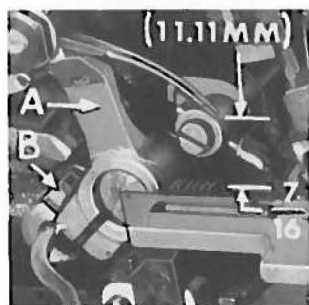

Fig. 3
With throat plate assembled in position needles should center in the front end of needle slot. When needles are at high position, the needle points should be set  $7/16$  inch (11.11 mm) above the throat plate (Fig. 3) for Style 39500 RB. For Styles 39500 RC-045 and RC-060 the needle points should be set  $15/32$  inch (11.91 mm) above the throat plate. To align needles or set the height above throat plate, move needle driving arm (A, Fig. 3) by loosening clamp screw (B). After needles have been set properly, tighten screw (B) and remove throat plate.